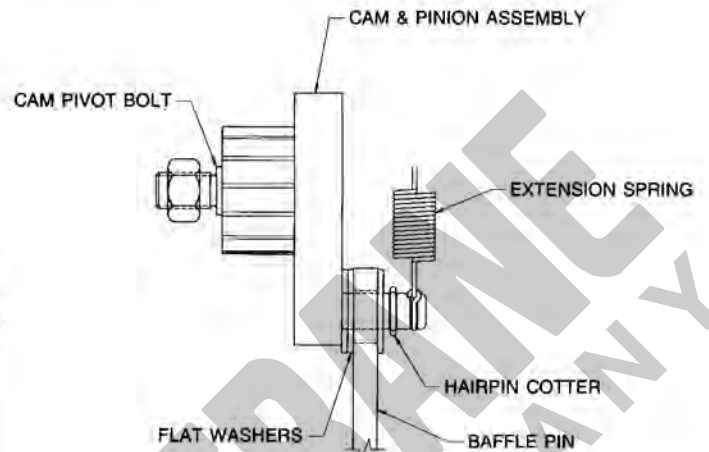

FIGURE 57
2. Assembly of the baffle pin on the cam is accomplished by rotating the cam about 1/4 turn, bringing the grooved pin about on a line horizontally with the cam pivot. Refer to Figure 57 for proper assembly of the baffle pin and extension spring on the cam. Assemble baffle pin to cam as shown.